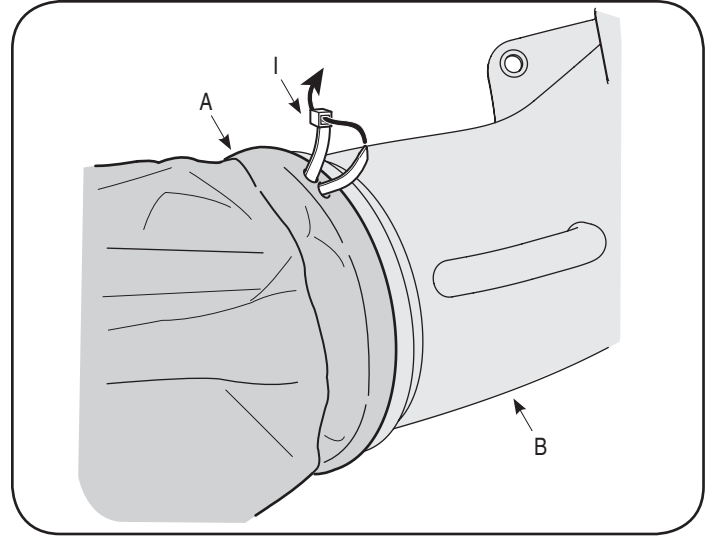

Figure 7
1. Place grass bag [A] over chute assembly [B], Figure 7.
2. Use the cable tie [I] to secure bag to chute assembly by inserting the cable tie into hole in bag and pulling through. Make sure cable is positioned so it ties bag around indented groove (over flange) of chute, Figure 7. Pull cable tight with pliers.